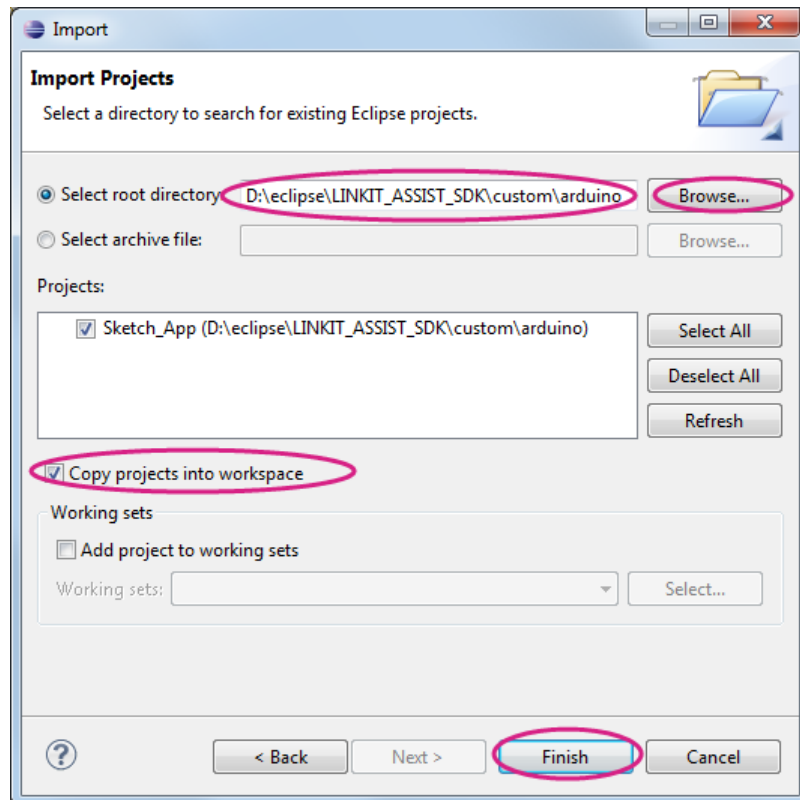

Figure 55 Selecting custom/arduino as the root directory
- b) In the **Import Projects** dialog, next to **Select root directory** click **Browse** and find the custom\Arduino folder in LinkIt Assist SDK folder. Make sure the **Copy projects into workspace** is checked, as shown in Figure 55, then click **Finish**.